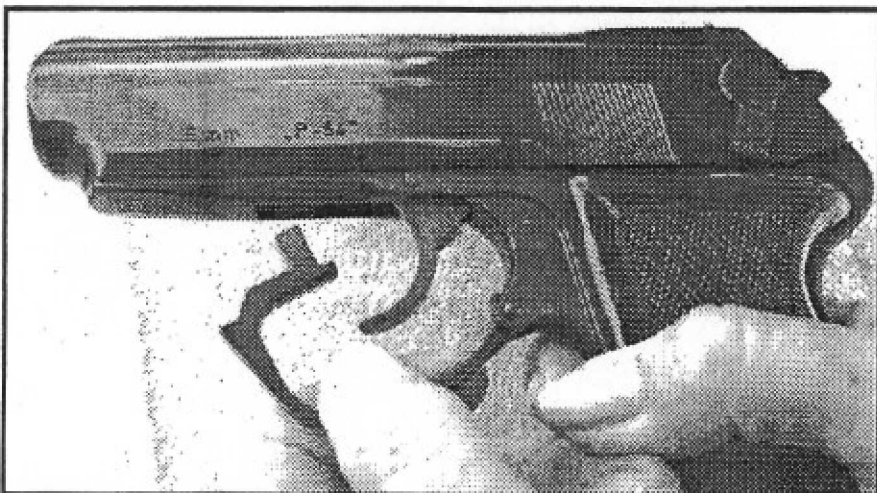

FIGURE 3: PULLING HINGED TRIGGER GUARD DOWN FOR DISASSEMBLY
- 5) Still holding the pistol with the right hand, pull the hinged trigger guard downward (See Figure 3) with the left hand.